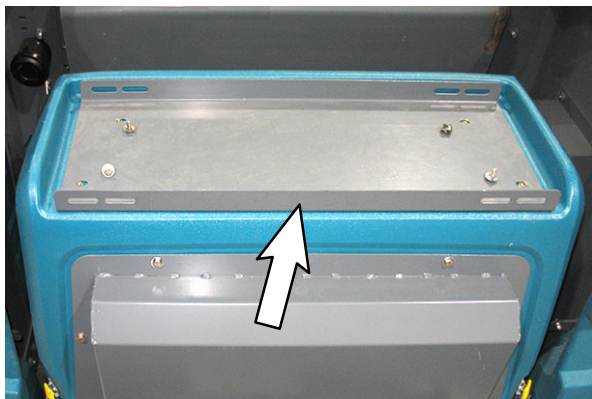
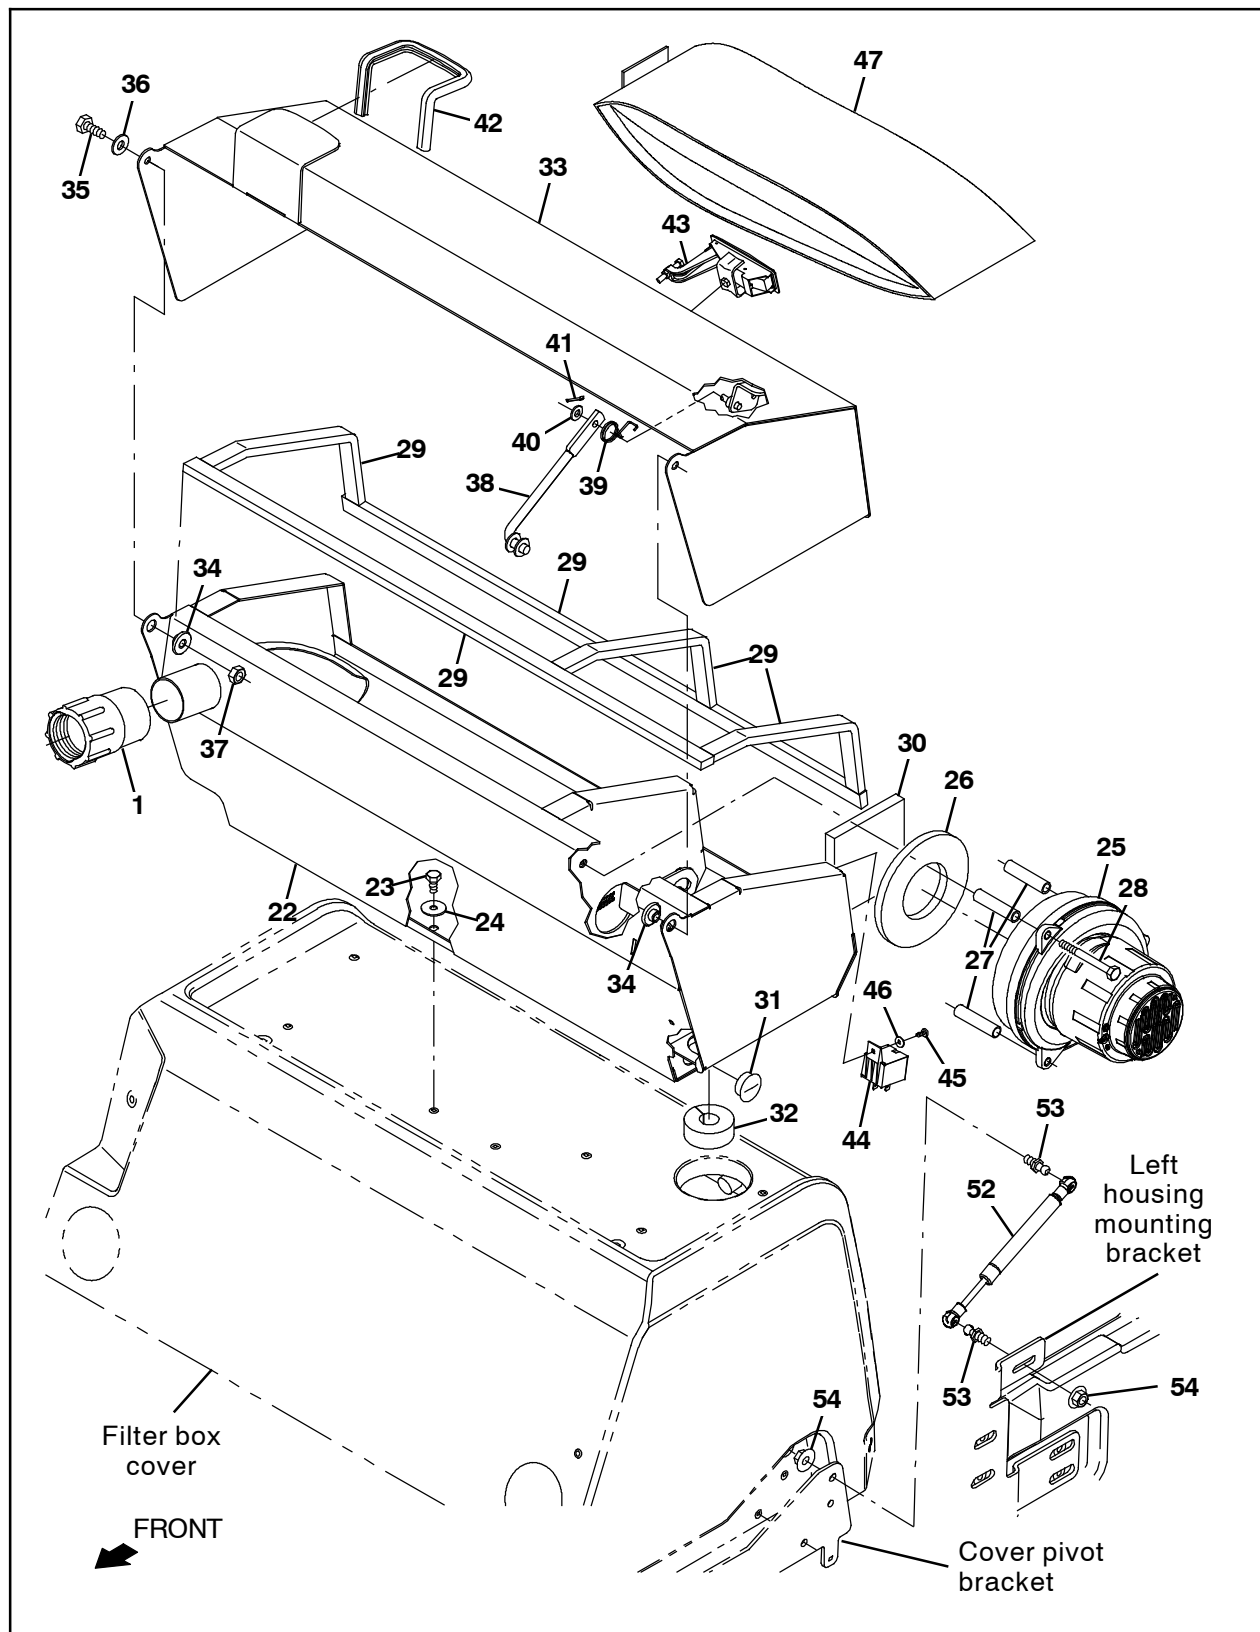

FIG. 3
FIG. 6
5. Remove the cover plate from the filter box cover. Discard the cover plate and all mounting hardware. (Fig. 3)
6. Place the assembled vacuum wand assembly onto the filter box cover. (Fig. 3/Fig. 6)
7. Use six M6 hex screws (23) and six flat washers (24) to install the vacuum wand assembly onto the filter box cover. (Fig. 3/ Fig. 6)
10. Install one hose cuff (1) onto the filter box (22). (Fig. 6)
11. Use one M8 flanged hex nut (54) to install a ball stud (53) onto the left housing mounting bracket. (Fig. 6)
12. Remove the four M6 hex screws securing the cover pivot bracket to the filter box cover. (Fig. 6)
13. Use one M8 flanged hex nut (54) to install a ball stud (53) onto the cover pivot bracket. (Fig. 6)
14. Reinstall the previously remove M6 hex nuts to secure the cover pivot bracket to the filter box cover. (Fig. 6)
15. Install the gas spring (52) onto the previously install ball studs (53). (Fig. 6)
35. Install the paper vacuum bag into the the vacuum wand fan compartment. (Fig. 6)